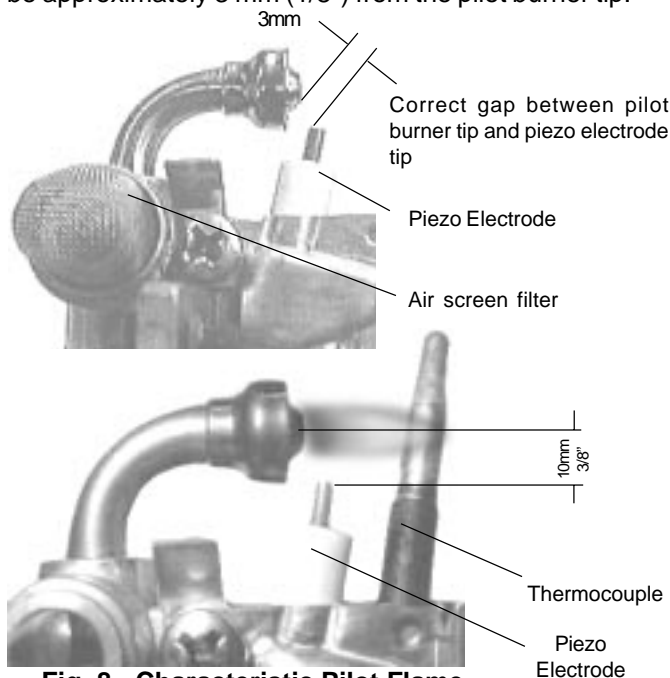

Fig. 8 - Characteristic Pilot Flame
Pilot Flame: The pilot flame should burn with a clean sharp blue flame and should resemble the diagram in Fig 8. If the flame is yellow, or if the pilot knob has to remain depressed for a long time in order to keep the pilot lighted, the pilot burner and or the pilot burner orifice may need to be cleaned (NG), the orifice may need to be replaced(LP), and or the air screen may need cleaning. The pilot flame should envelop approximately 10 mm (3/8") of the tip of the thermocouple. If it is too small, the pilot burner must be cleaned. To obtain a spark, the position of the Piezo igniter electrode should be approximately 3 mm (1/8") from the pilot burner tip.
The Pilot flame should be a sharp blue flame and aimed at the tip of the thermocouple so that it envelops 10 mm (3/8 ") of the thermocouple tip. Pilot flame has to be properly aimed at the thermocouple. See Fig 8.